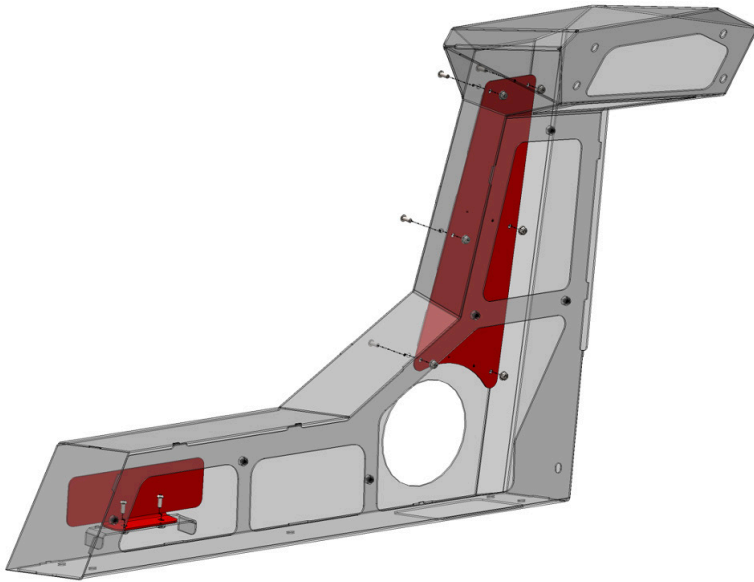

Figure 21
22. Install the color plates (23028, 23030 and 23031) into the headache rack risers (22779 and 22778) using M6 button head bolts and nylock nuts. Figure 21.